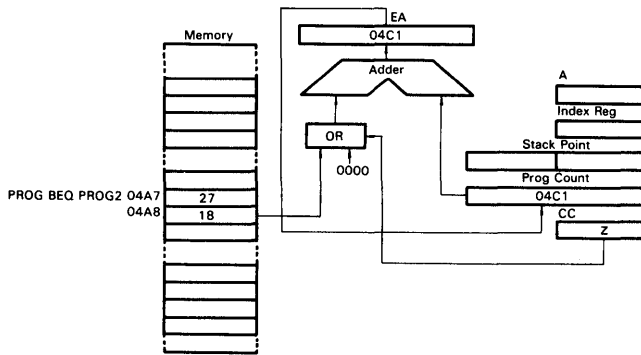

Figure 27 Example of Relative Addressing
See Fig. 27. The relative addressing mode is used with branch instructions only. When a branch occurs, the program counter is loaded with the contents of the byte following the operation code.  $EA = (PC) + 2 + Rel.$ , where Rel. indicates a signed 8-bit data following the operation code. If no branch occurs,  $Rel. = 0$ . When a branch occurs, the program jumps to any byte in the range + 129 to - 127. A branch instruction requires a length of 2 bytes.